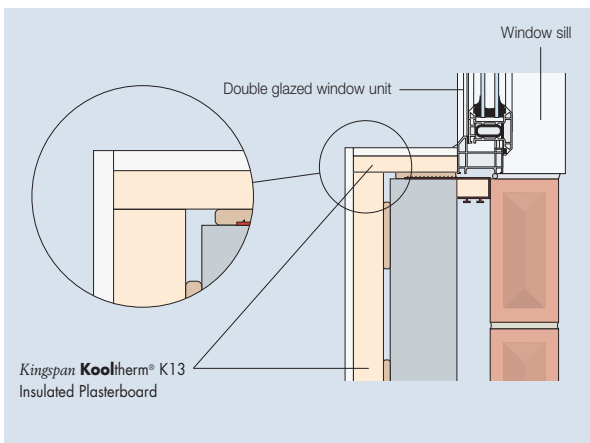

Figure 10 – Insulated reveal and external corner
- The use of a thinner sheet of **Kingspan Kooltherm® K13 Insulated Plasterboard** at reveals may be necessary (see Figure 10).